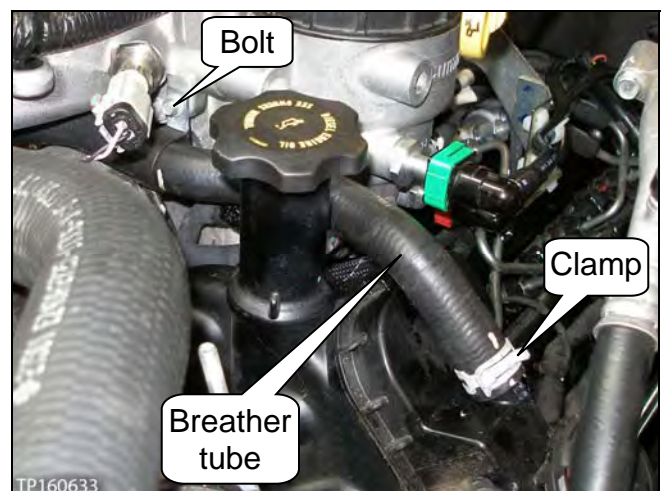

Figure 26
17. Remove the bolt, and then unclamp and disconnect the breather tube from the valve cover (see Figure 26).